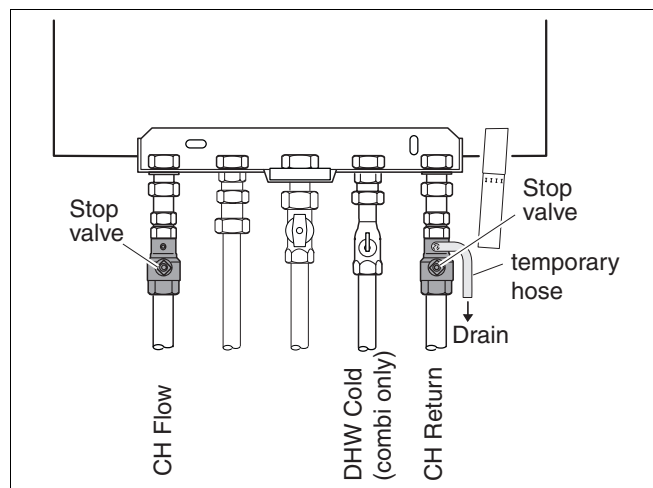
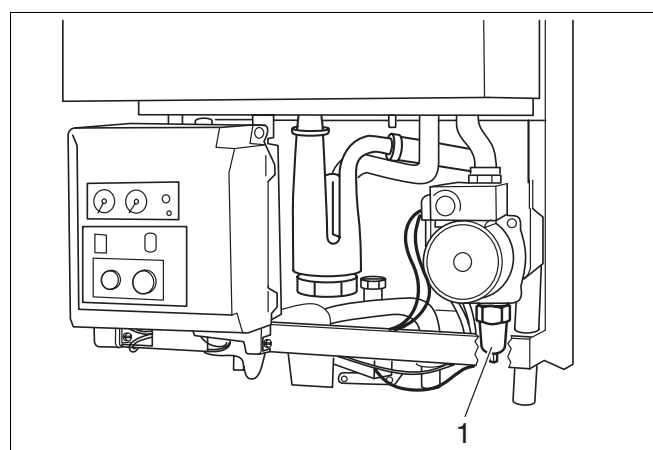

Fig. 45 Draining the system
Fig. 46 Screw-in drain plug
Drain the system via the temporary filling loop (fig. 45) or the screw-in drain plug (fig. 46, item 1) located under the pump.